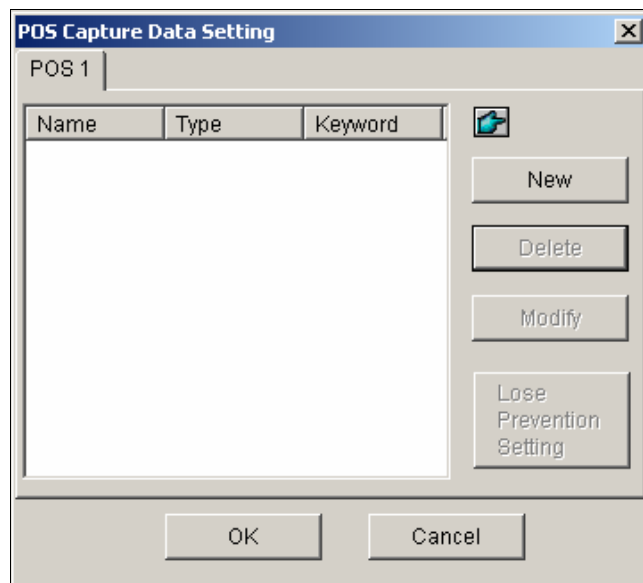

Figure 3-5 POS Capture Data Setting
1. Click the **Configure** button, point to **POS Application Setting**, and then select **POS Field Filter** to display the POS Capture Data Setting window (Figure 3-5).
1. On the main screen, click the **Configure** button, point to **POS Application Setting**, and select **POS Filed Filter Setup**. The POS Capture Data Setting dialog box (Figure 3-5) appears.
- To trigger an alarm when the defined text is detected during the transaction, click the **Loss Prevention Setting** button in the POS Capture Data Setting dialog box (Figure 3-5). This dialog box appears.